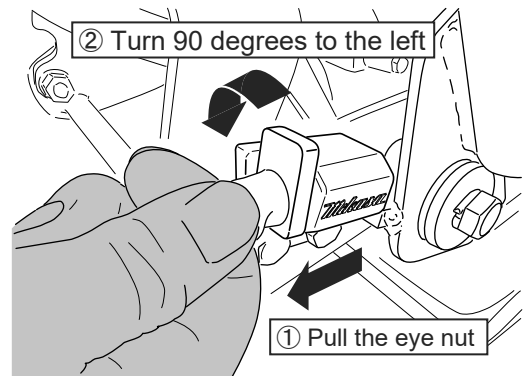

Fig. 12
5. Turn to the left 90 degrees from pulling the handle of the eye nut stopper, please release the handle. (Fig. 12)